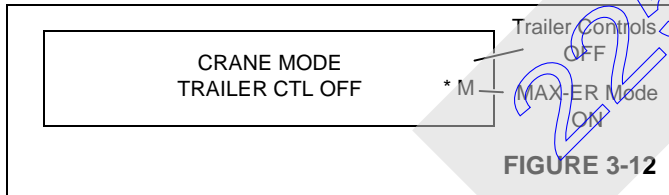

FIGURE 3-12
9. Then turn key counterclockwise and release to confirm TRAILER CTL ON mode. Screen shown in Figure 3-12 appears. **This is mode that must be used when MAX-ER trailer is attached to rear of crane.**